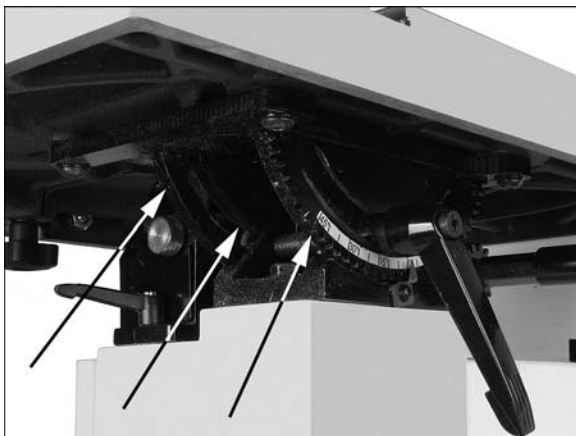

Figure 37
2. Grease sliding surfaces of the table trunnions (Figure 37).